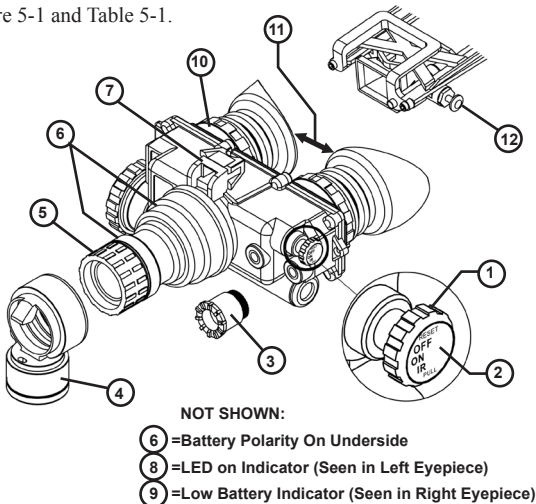
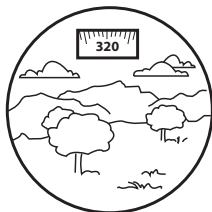

Figure 5-1. PVS-7 Controls and Indicators
Figure 5-3. View Through Installed Compass
The controls and indicators for the PVS-7 are shown or described in Figure 5-1 and Table 5-1.
3. Align the PVS-7's latch to the head mount socket (See Figure 5-1,7). Press and hold down the latch lever while installing the goggle into the head mount socket. Release the latch when the goggle is fully engaged in the socket. After releasing the latch lever, pull the goggle away from the mount to ensure that the goggle is engaged and latched securely.
6. Adjust the interpupillary distance (Figure 5-1, Item 12) by sliding the eyepieces together or apart so each eye can observe the entire field of view at the same time. The eyepieces adjust independently.
11. Adjust the objective lens focus (Figure 5-1, Item 5) while observing an object until the sharpest image is obtained.
5. Adjust the interpupillary distance (Figure 5-1, Item 12) by sliding the eyepieces together or apart so each eye can observe the entire field of view at the same time. The eyepieces adjust independently. If necessary, readjust the eye relief.
9. Adjust the objective focus (Figure 5-1, Item 5) while observing an object until the sharpest image is obtained.
3. Adjust the interpupillary distance (Figure 5-1, 12) by sliding the eyepieces together or apart so each eye can observe the entire field of view at the same time. The eyepieces adjust independently.
4. To view the compass through the PVS-7, grip the compass with index finger on top and thumb on illumination button on the bottom (Figure 5-1, Item 4). Press button slightly with thumb until proper brightness is obtained. The image should appear as shown in Figure 5-3.